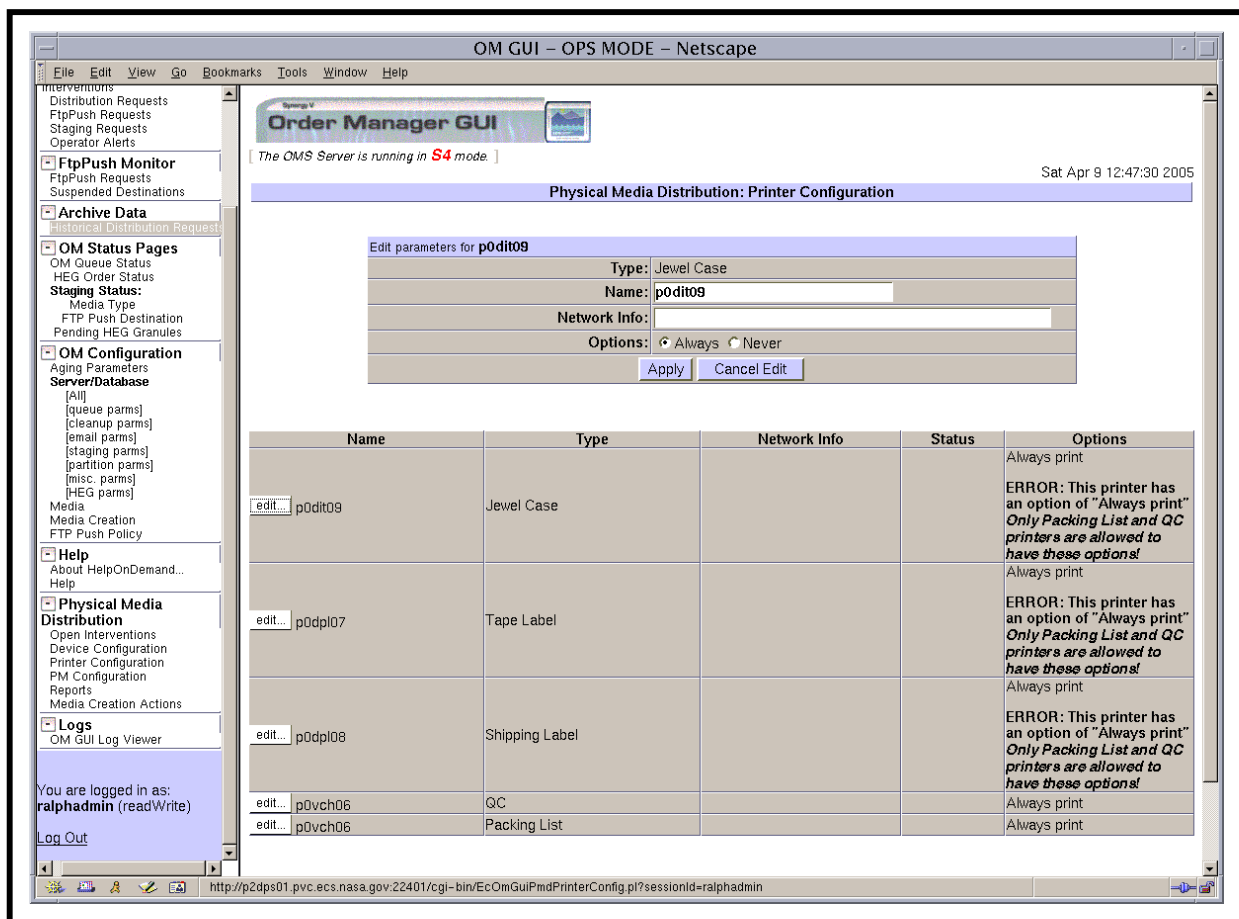

Figure 85. PMD Printer Configuration Page with Edit Parameters Area
- 4 To change a printer's configuration first click on the **edit...** button next to the printer name to bring up a **PMD Printer Configuration** page with an **Edit parameters** area for the specified printer (Figure 85).
- A **PMD Printer Configuration** page with an **Edit parameters** area for the specified printer (Figure 85) is displayed.
- 5 Observe information displayed on the **PMD Printer Configuration** page with **Edit parameters** area for the selected printer (Figure 85).
- The **PMD Printer Configuration** page with **Edit parameters** area (Figure 85) is dismissed.